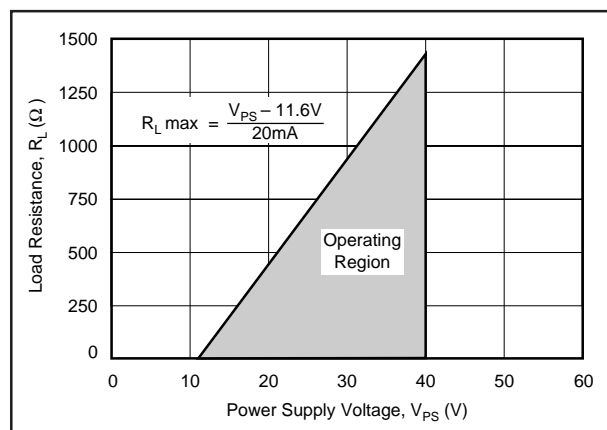

FIGURE 4. Power Supply Operating Range.
- Always choose R_L (including line resistance) so that the voltage between pins 7 and 8 ($+V_{CC}$) remains within the 11.6V to 40V range as the output changes between the 4-20mA range (see Figure 4).